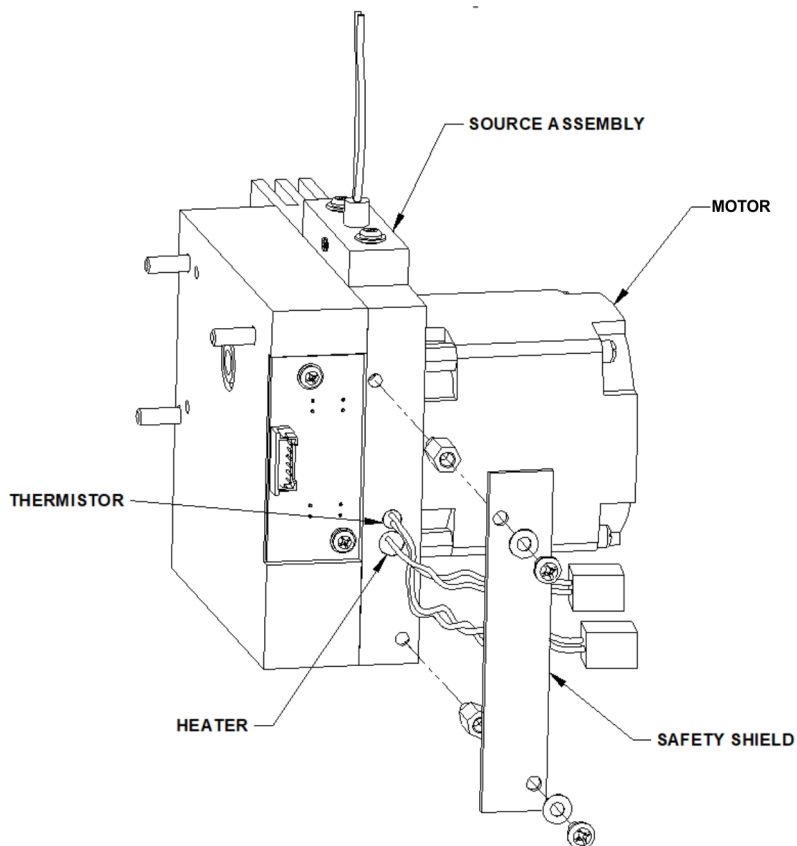

Figure 5-15. Opening the GFC Wheel Housing
- The GFC Wheel housing temperature sensor (thermistor, Figure 5-15)